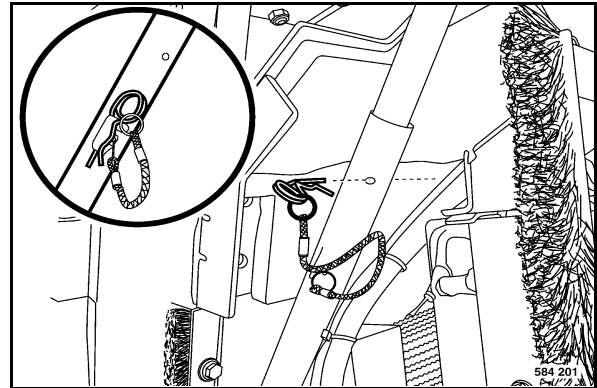

Fig. 186
- Open the engine hood (Fig. 186) completely and secure it.